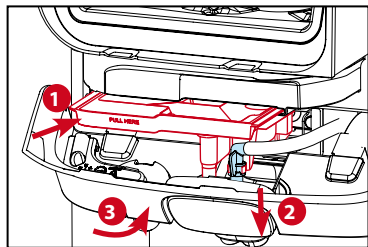

Fig.6
4. The display will now show: **REINSTALL WJM SYSTEM**, slide the mixing tray into its original position (there will be two audible beeps when it is installed correctly), connect the outlet tube, and close the fluid treatment panel (there will be two more audible beeps). The machine will automatically continue to next step. (See fig.6)